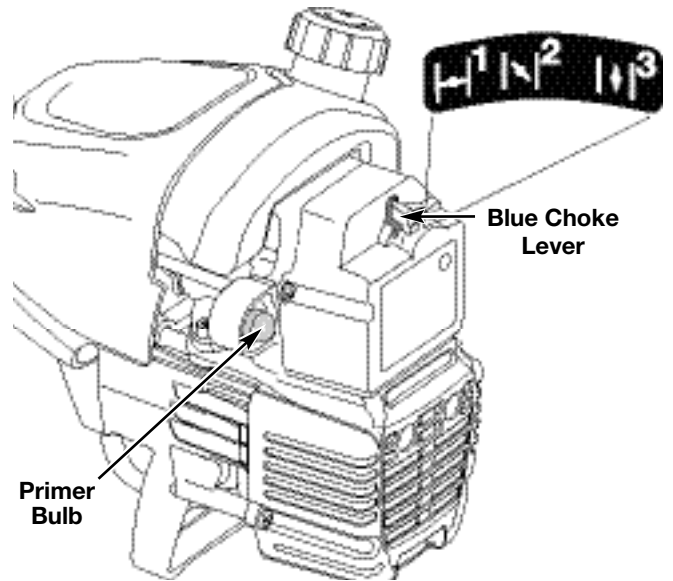

Fig. 17
2. Fully press and release the primer bulb 10 times, slowly. Some amount of fuel should be visible in the primer bulb and fuel lines (Fig. 17). If you can't see fuel in the bulb, press and release the bulb as many times as it takes before you can see fuel in it.
3. Place the blue choke lever in **Position 1** (Fig. 17).
5. Place the blue choke lever in **Position 2** (Fig. 17).
8. Once the engine is warmed up, place the blue choke lever in **Position 3** (Fig. 17). The unit is ready for use.
IF...the engine hesitates, return the blue choke lever to Position 2 (Fig. 17) and continue warm-up.